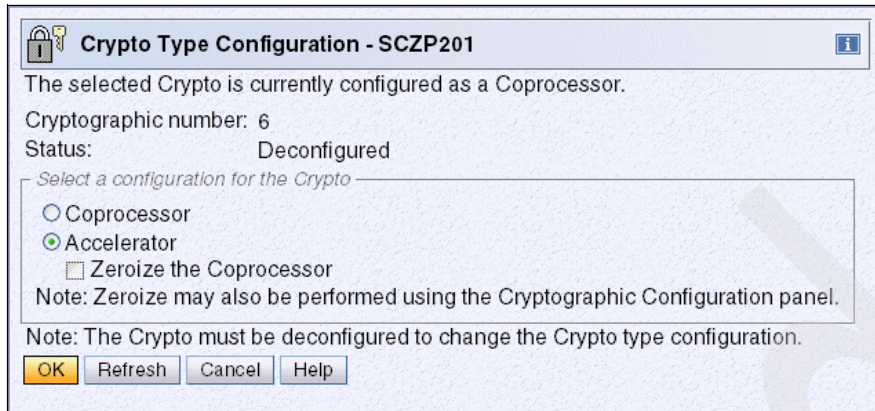

Figure 8-22 SE - Crypto Type Configuration (Coprocessor to Accelerator)
4. Change the configuration for the crypto adapter. The selected crypto channel is currently configured as a Coprocessor (Figure 8-22 on page 355). Select **Accelerator** in the panel.